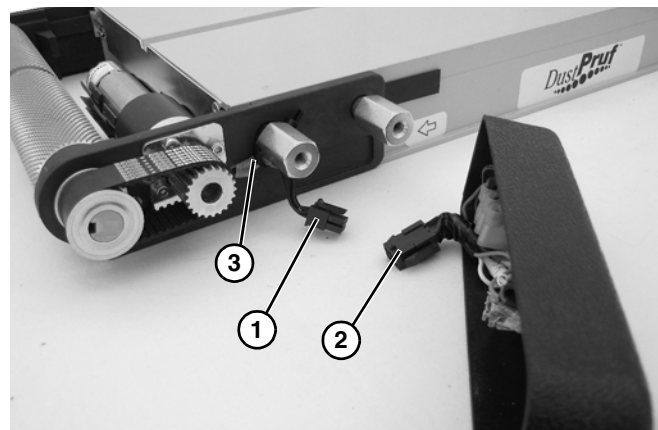

Figure 73
3. Unplug motor connector (**Figure 73, item 1**) from cover wiring connector (**Figure 73, item 2**), and cut cable tie (**Figure 73, item 3**) from conveyor.